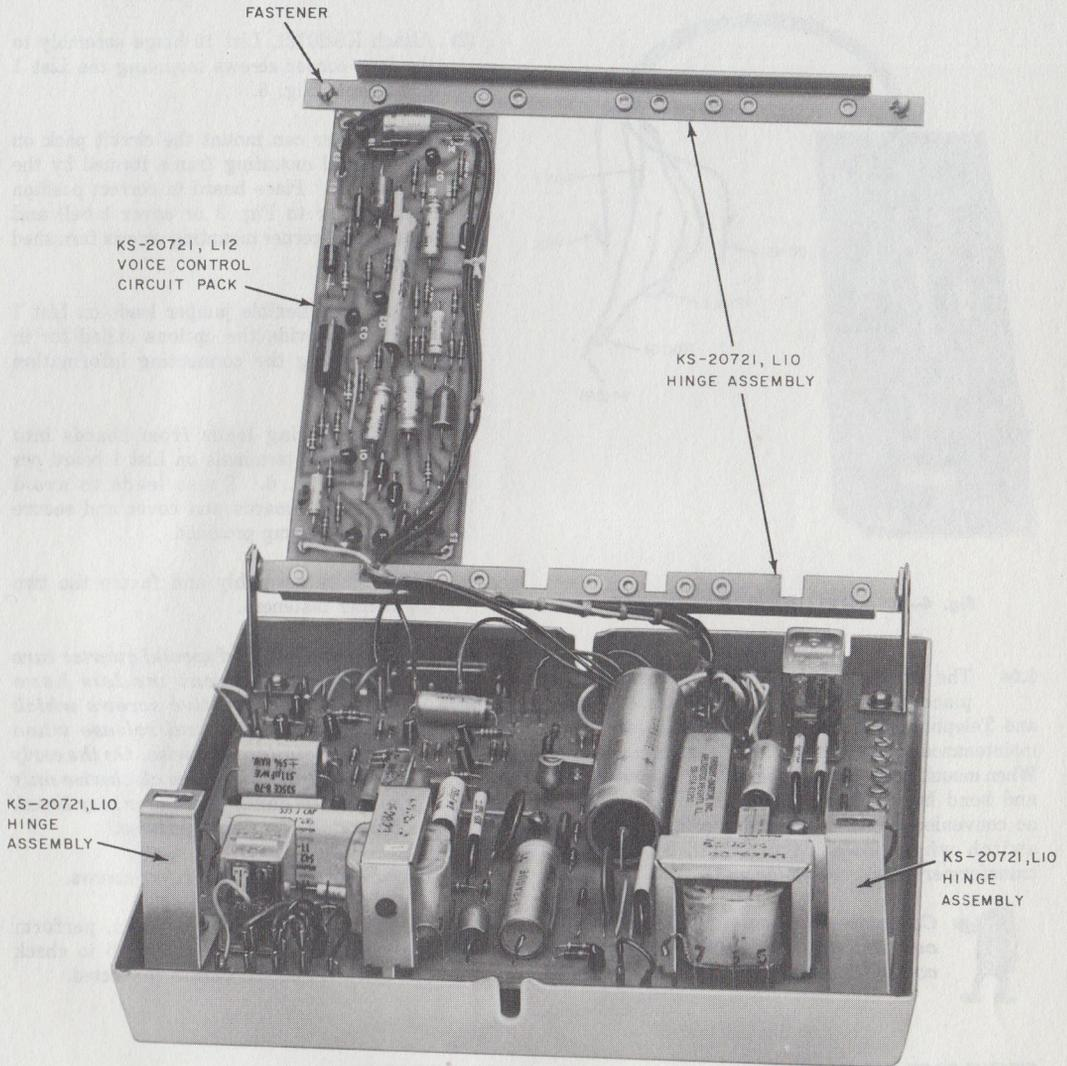

Fig. 3—KS-20721, List 2 Station Coupler With Optional Circuit Pack
- Assembly, Hinge, KS-20721, L10 (Fig. 3) (if required for field installation)
**2.03** The KS-20721, List 2 station coupler (Fig. 3) consists of a KS-20721, List 1 station coupler with a KS-20721, List 10 hinge assembly and KS-20721, List 12 voice control, factory installed.
- (1) Remove the cover from the station coupler using the KS-19192, List 1 tool or screwdriver.
- (2) Attach KS-20721, List 10 hinge assembly to the four corner screws mounting the List 1 board. Refer to Fig. 3.
- (3) The installer can mount the circuit pack on the internal mounting frame formed by the hinge assembly. Place board in correct position on frame (refer to Fig. 3 or cover label) and secure with four corner mounting screws furnished with circuit pack.
- (4) Connect the flexible jumper leads on List 1 board to provide the options called for in Table A by using the connecting information given in Table B.